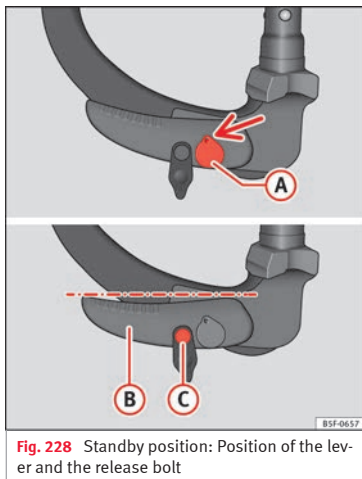

Fig. 228 Standby position: Position of the lever and the release bolt
- Key **(A)** » **Fig. 228** is in the released position (the part of the key with the holes is facing upwards).
- Lever **(B)** » **Fig. 228** is in the bottom position.
- The release bolt **(C)** » **Fig. 228** can be moved.